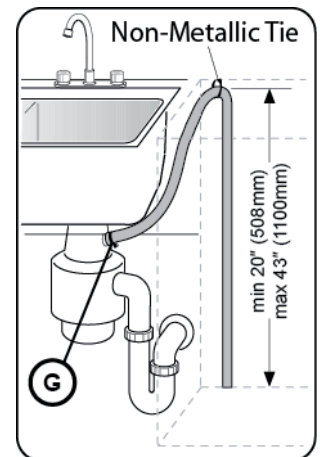

Figure 12
2. Directly to a disposer dishwasher drain connection, as shown in **Figure 12**.